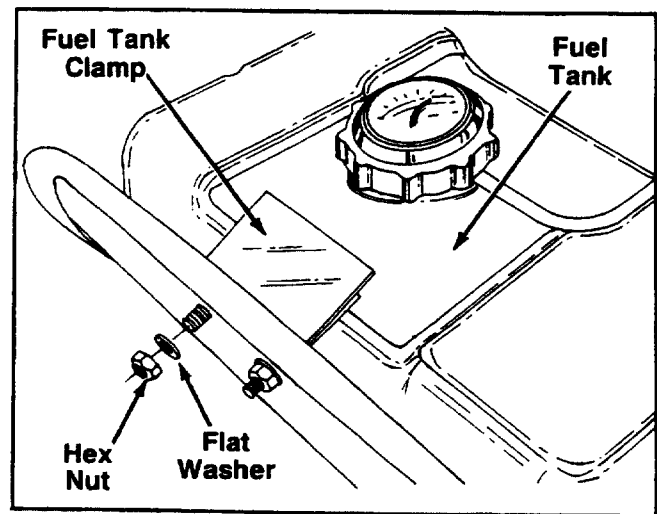

FIGURE 7.
5. Remove the fuel tank, by removing two hex nuts and flat washers from fuel tank clamp. See figure 7.